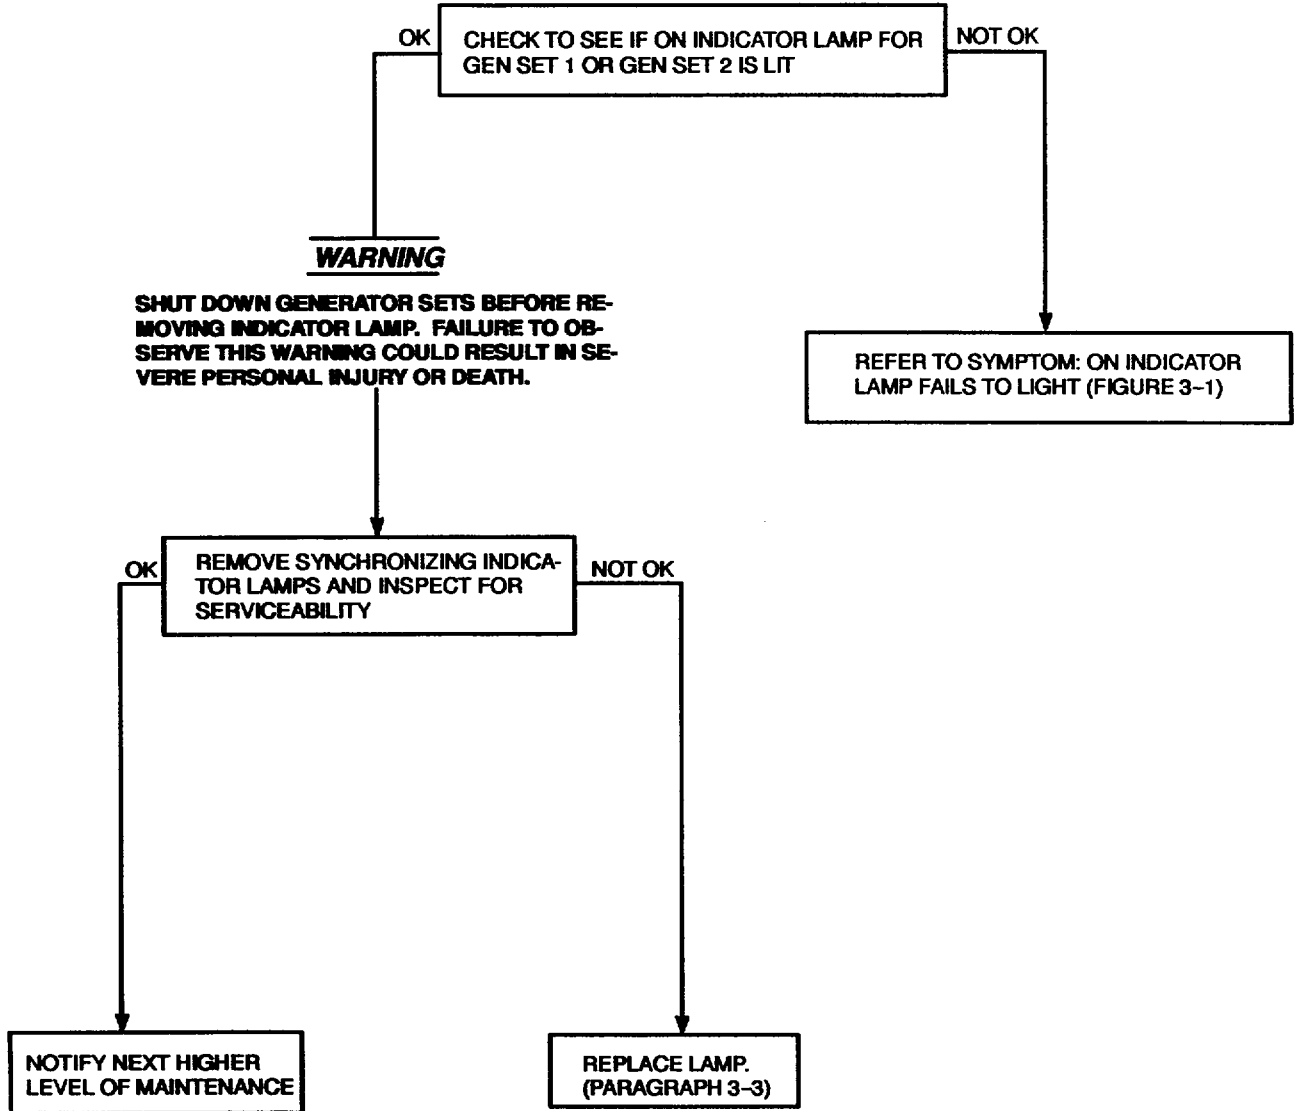

Figure 3-3. SYNCHRONIZING Indicator Lamps Fall To Light When TRANSFER Switch Is Operated.
**3-3.3 MISSION.** In the event that the right front and rear synchronizing bulbs do not light during the transfer procedure and the mission cannot be terminated to check the bulbs as described in fig. 3-3, the bulbs will have to be removed as follows with one set running: